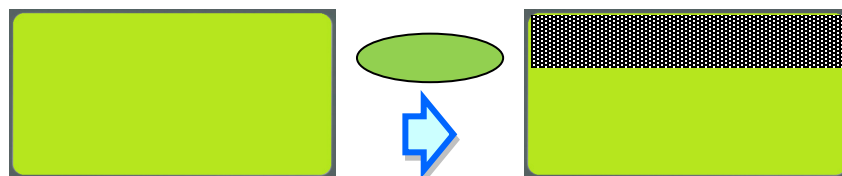

Figure 3-6 Menus displayed on the screen of a TP series text panel
- (4) After the users edit the menu they want to modify, they have to touch **1. D/L AP TP04G** ←PC on the screen of the TP04G series text panel used. "WAIT COMM..." will be displayed on the screen of the TP04G series text panel used after **1. D/L AP TP04G** ←PC is touched.
- (5) The users have to click **Write Menu to TP** on the **Communication** menu. **Write Menu to TP** is usually shown in grayscale. Only when the **User Menu Setting** mode is used can **Write Menu to TP** be clicked. After the users click **Write Menu to TP**, the 21 user menus will be downloaded to the TP04G series text panel used.
- (6) The users have to touch **TP04G SETUP** on the main menu displayed on the screen of the TP04G series text panel used. They have to touch Language, press Enter on the panel, and select **USER DEFINE**. After **USER DEFINE** is selected, the user-defined language can be used, as shown in Figure 3-6.